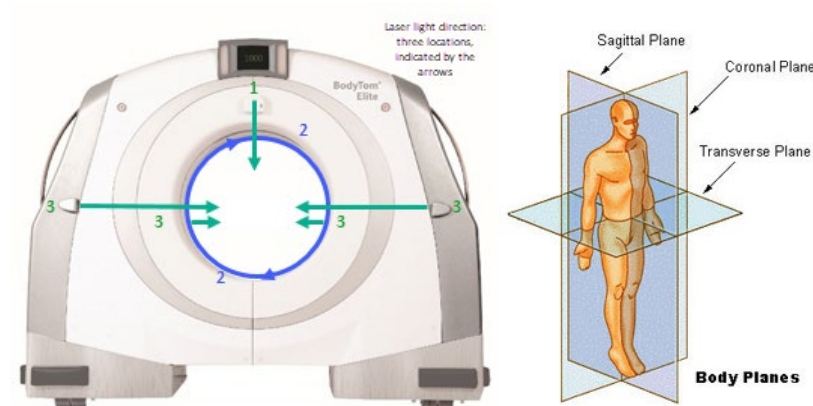

Figure 5: Laser aperture's direction
There are four lasers used with the BodyTom Elite system as indicated in Figure 5 on page 59: 1 laser (Coronal) at position **1**, 1 laser (Sagittal) at position **2**, and 1 external and 1 internal laser (Transverse or Axial) at position **3**. Laser **2** is mounted internally (fixed) to the disk assembly, which spins within the system's bore. Therefore, the lasers output light is always aimed at and rotating within the bore itself.
- Lasers **1** and **3** (see Figure 5):
- Laser **2** (see Figure 5):